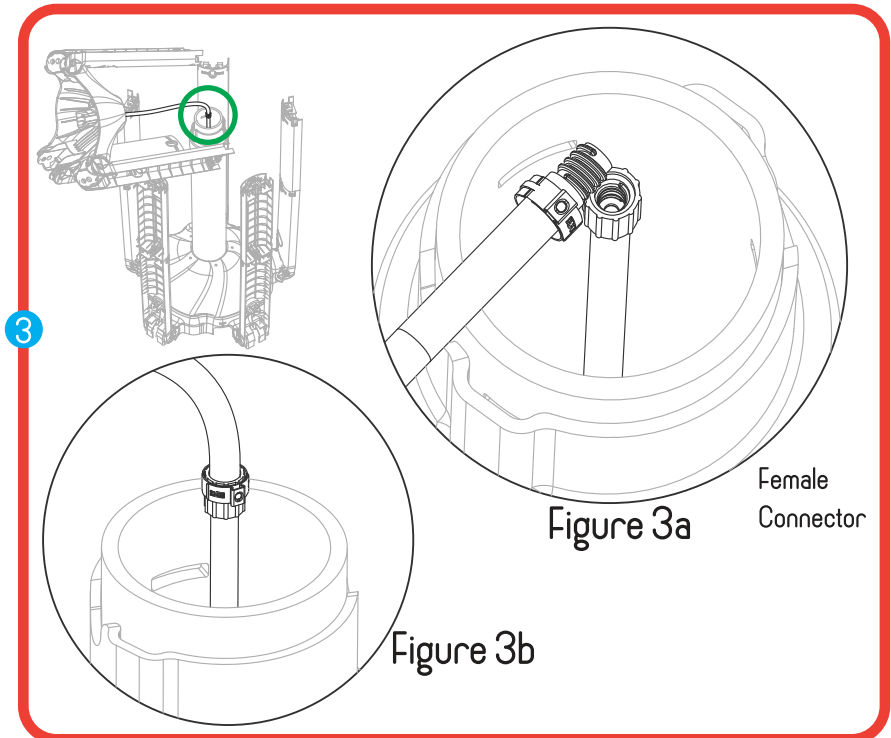

Figure 3a
Connect hose from the Top Hub Assembly (B) to the hose in the column of the Base Assembly (A). Make sure the seal of the female connector (Figure 3a) located inside the column is seated all the way down, and turn the female fitting connector counter clockwise to tighten (Figure 3b).